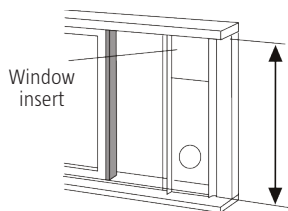

Fig. 13
3. Open the window and put the window insert on the window frame (fig. 13).